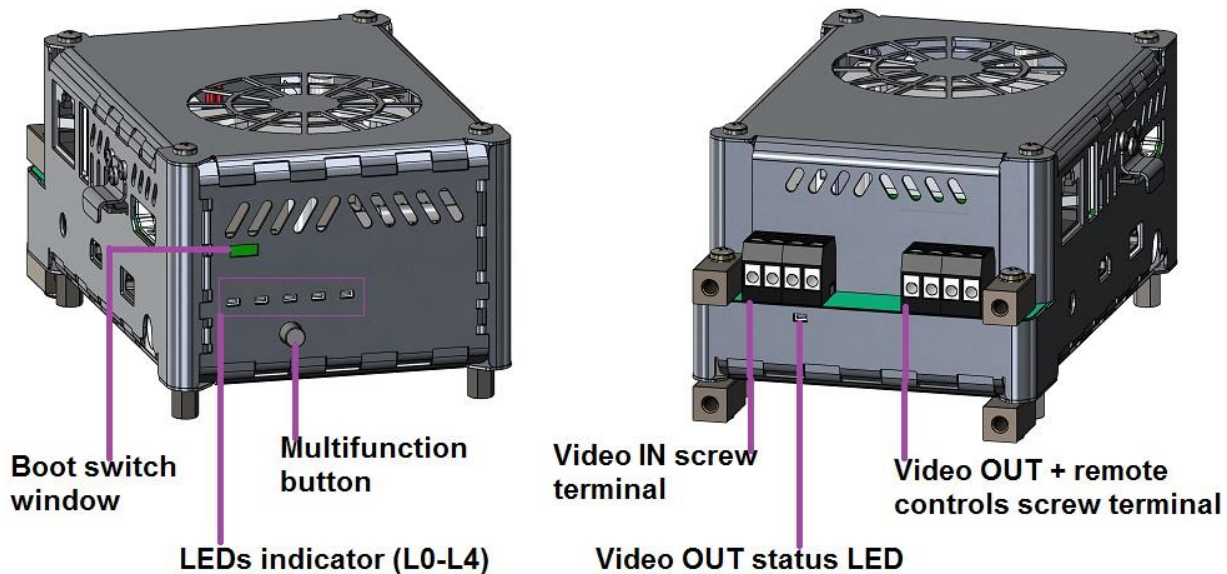

Figure 9: Controls and connections Recording box (3)
The HDMI video output is forwarded to the micro HDMI by using the HDMI cable bridge (see Figure 9: Controls and connections Recording box (3)).
Connect the HDMI output to the micro HDMI input with the provided cable bridge, connect the USB 2.0 port (1) to the mini USB 2.0 port input with the provided cable bridge (see Figure 9: Controls and connections Recording box (3))
Connect the USB 2.0 port (1) to the mini USB 2.0 port input with the provided cable bridge (see Figure 9: Controls and connections Recording box (3)).
The multifunction button (see Figure 9: Controls and connections Recording box (3)) has the following functions: